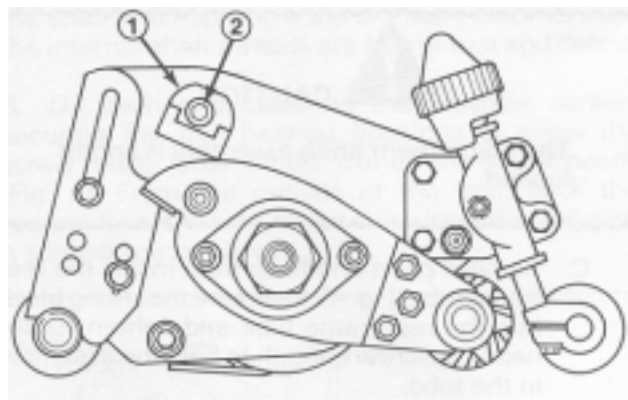

Figure 12
- 13.** Remove the carriage bolt and quick up ramp. Hold the mounting block in position and tighten the allen head set screw to secure the mounting block assembly into the cutting unit cross tube (Fig. 12).